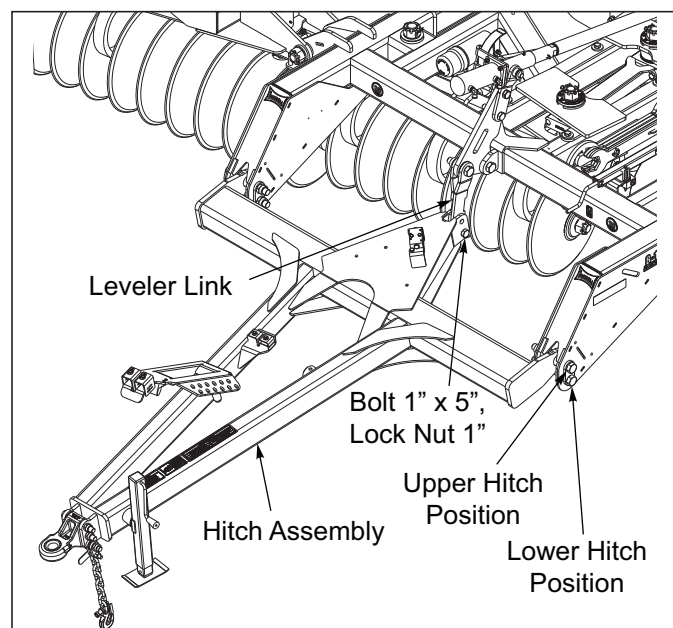

Figure 4-11: Hitch Adjustment
4. To adjust the hitch **See Figure 4-11**